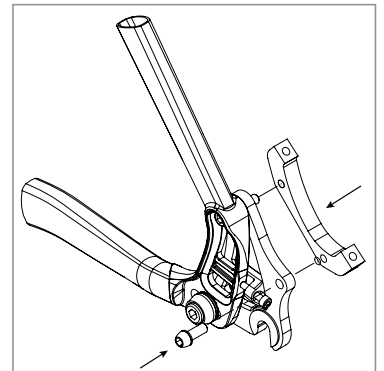

Figure 3
2. Mount your disc brake adapter using the same upper pivot bolt and 1 of the 2 bolts supplied with the brake adapter. Apply thread locking compound to both bolts. Secure the lower adapter bolt to the brake according to manufacturer's specification. Tighten the upper pivot bolt just enough to complete brake caliper installation. You will fully tighten it later after dropout adjustment is completed (Fig 3).